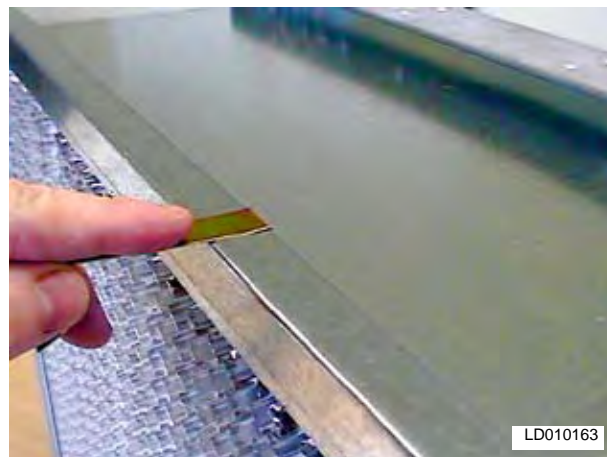

FIG. 2-112 – PREFILTER LATCH AFTER INSTALLATION ONTO FILTER HEADER.
6. To install the prefilter latches, slide the end of the latch with the 180 ° turn, over the edge of the header, as shown in Fig.2-112. The latch should be installed at the approximate midpoint of the filter leg.
The prefilter latch should be slid over the header as shown in Fig.2-112.